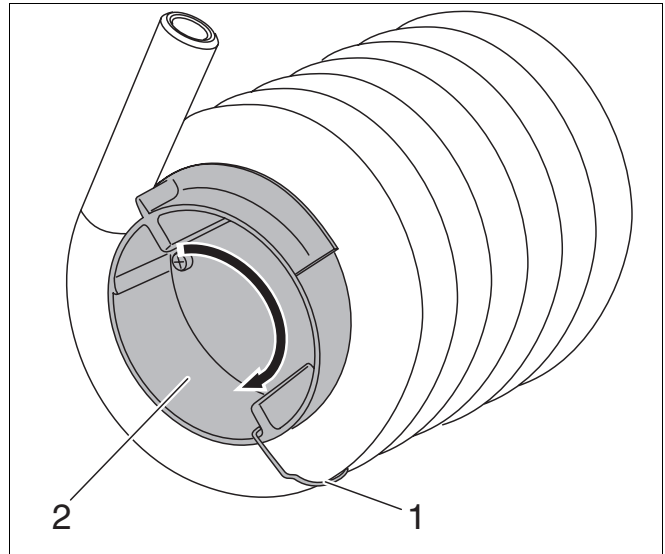

Fig. 35 Removing the diffusion head
- Remove the diffusion head (fig. 35, item 2) on the underside of the heat exchanger by withdrawing the securing pin (fig. 35, item 1) and unscrewing the diffusion head.